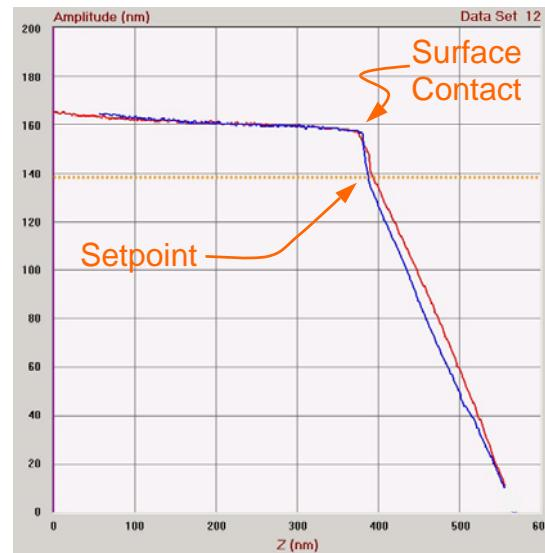

Figure 10-11 The SPM setpoint displayed against a vibration amplitude curve.
2. In the *Indent* tab panel, select the *Amplitude (μm)* option in the *Data* list. Perform a single indentation measurement to produce a data graph similar to Figure 10-11. The settings shown in Table 10-6 were used to produce this result with a NSC16 cantilever. Notice how the *Limit* control was used to end the loading segment of the measurement when the amplitude reached 10 nm. Usually *Limit* will be set to 10-50 nm to prevent the cantilever tip from being over-stressed.
3. Select the *Graph* tab panel and check the *Show Setpoint* checkbox. A horizontal orange line will be overlayed on the graph to indicate the current setpoint value. This is also shown in Figure 10-11. It may be necessary to change the vertical scale of the graph if the current setpoint position is higher than the range of the amplitude measurement.
where the Free Amplitude is the amplitude of vibration when the probe just begins to contact the sample surface. For example, in Figure 10-11